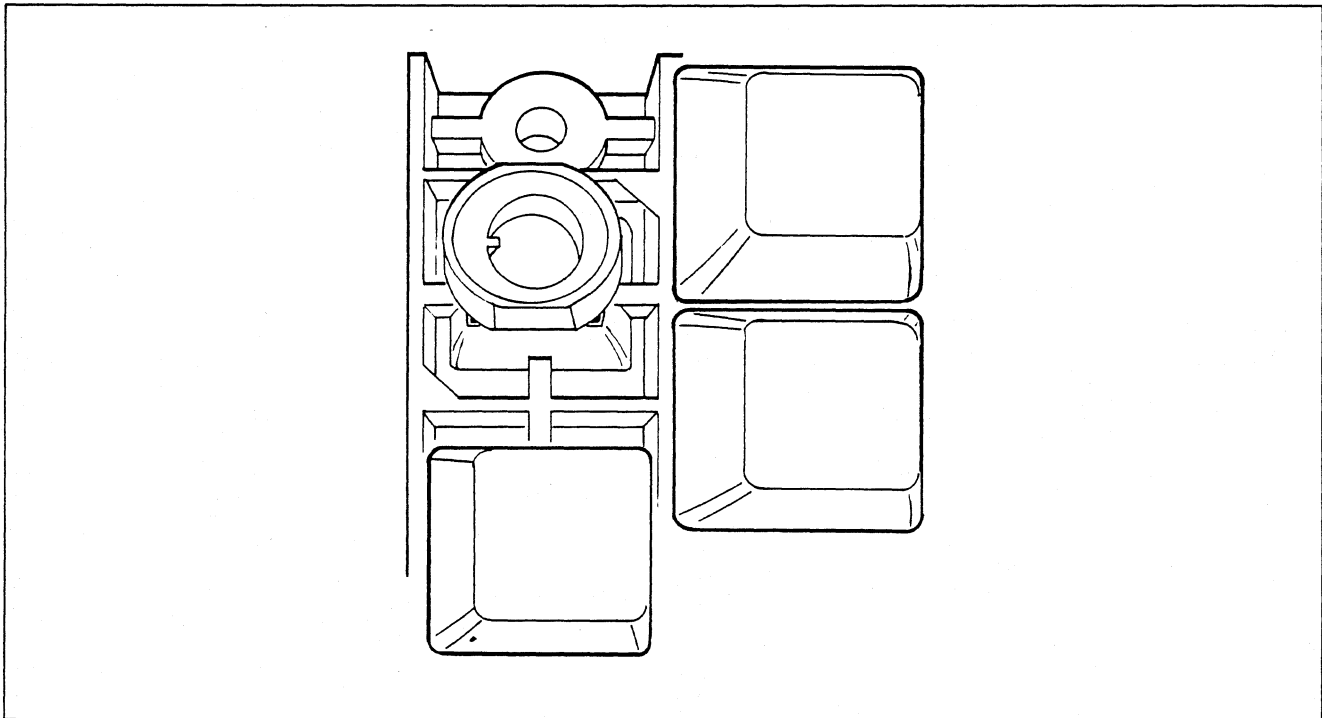

Figure 5-6.
- g. Place the insertion tool guide in the switch housing making sure that the keyway is toward the front of the keyboard (See **figure 5-6**.)